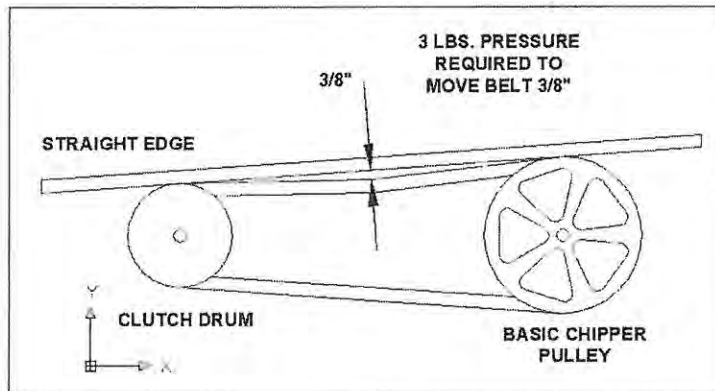

Figure 1
The belt on your chipper should deflect 3/8" under three pounds of pressure as shown in figure 1 below. If it doesn't, adjust per the following directions.
- Tighten or loosen the nut on the belt tensioner until you have the correct tension as shown in figure 1.